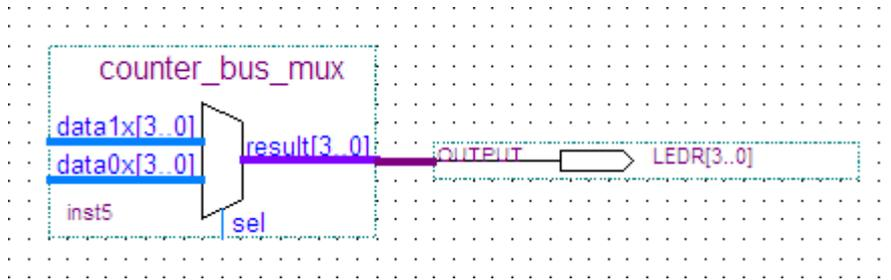

Figure 3-28 Rename the output pin
18. Rename the output pin as LEDR [3..0] as described in steps 13 c and d. (see **Figure 3-28**).